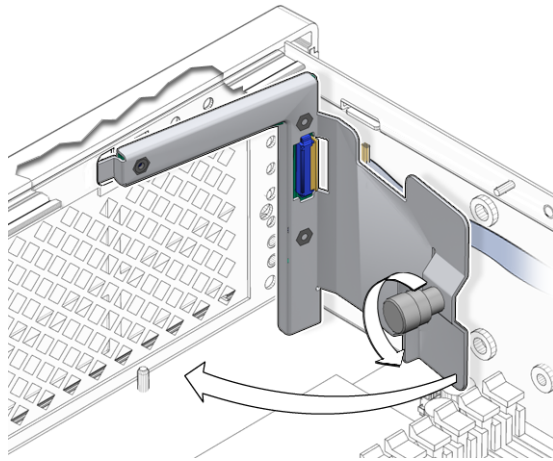

FIGURE 5-23 Removing the LED Board
4. **Loosen the thumbscrew of the LED board and swing the board out to the left (FIGURE 5-23).**